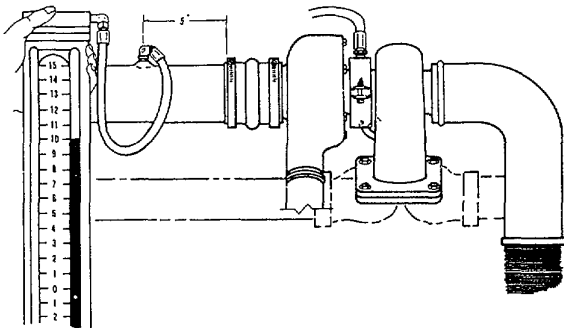

Fig. 104, TA2. Checking air inlet restriction
1. Check inlet air restriction by attaching a vacuum gauge or water manometer in air intake piping. Adapter must be perpendicular to air flow and one pipe diameter upstream from turbocharger in a straight section of tubing. Fig. 104.